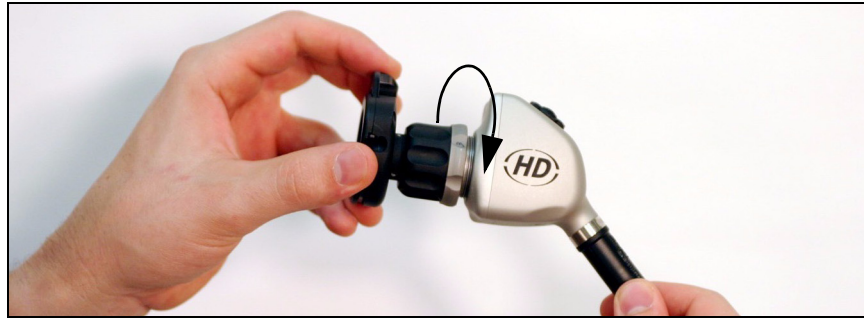

Figure 5: Attaching a coupler to the camera head
- Twist the camera end of the coupler into the camera head (clockwise) until it forms a tight seal (see Figure 5).